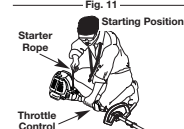

Fig. 12
5. Crouch in the starting position (Fig. 12). **SQUEEZE and HOLD the throttle control for ALL further steps.** Pull the starter rope 5 times.